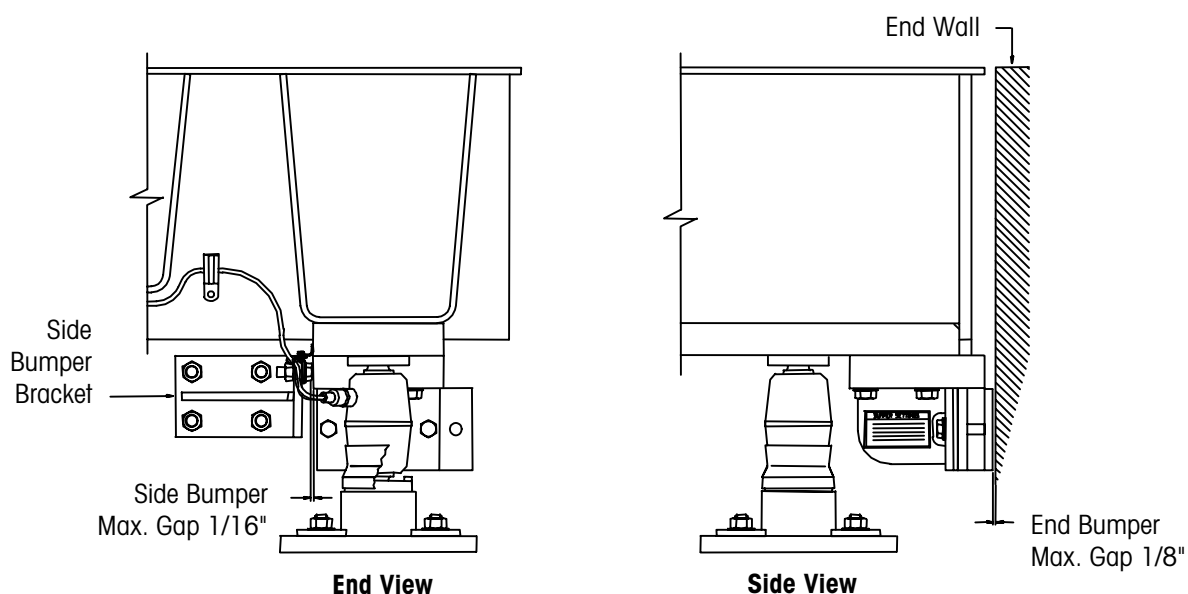

Figure 5-3: Module Alignment
12. Use anchor bolts to secure the side bumper brackets to the end walls of the foundation. Adjust the side bumpers and end bumpers according to the bumper gaps shown in Figure 5-3.